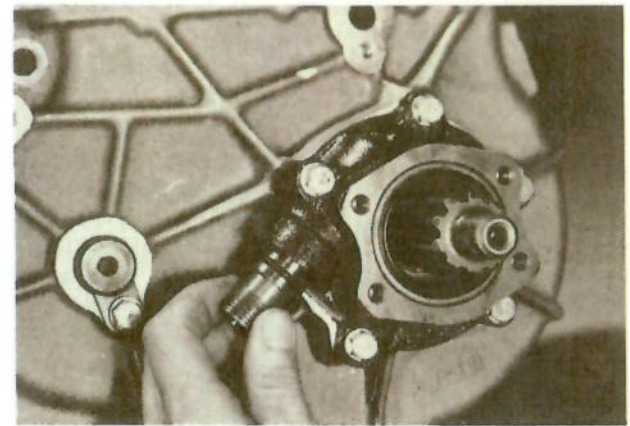

FIG. 12 - REMOVING THE SPEEDOMETER DRIVEN GEAR FROM THE SPEEDOMETER GEAR HOUSING.
22. Remove the hex-head cap bolt and washer, securing the speedometer shaft sleeve and the lock plate. Remove the speedometer shaft sleeve set together with the speedometer driven gear, (Fig. 12).